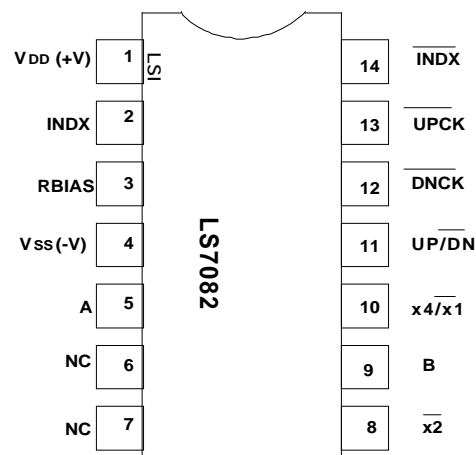

FIGURE 1
- LS7082 (DIP); LS7082-S (SOIC) - See Figure 1